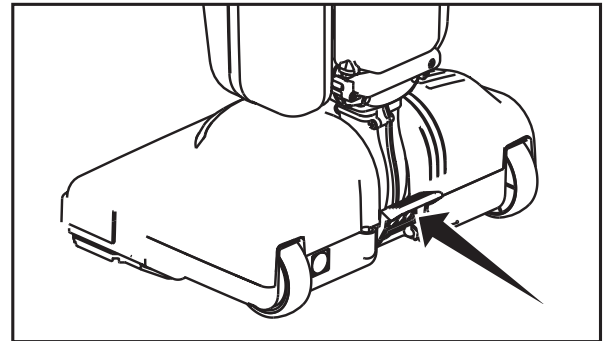

Fig. 2
- Press the Handle Release Pedal located on the back of the vacuum with your foot to recline the handle (Fig. 2).